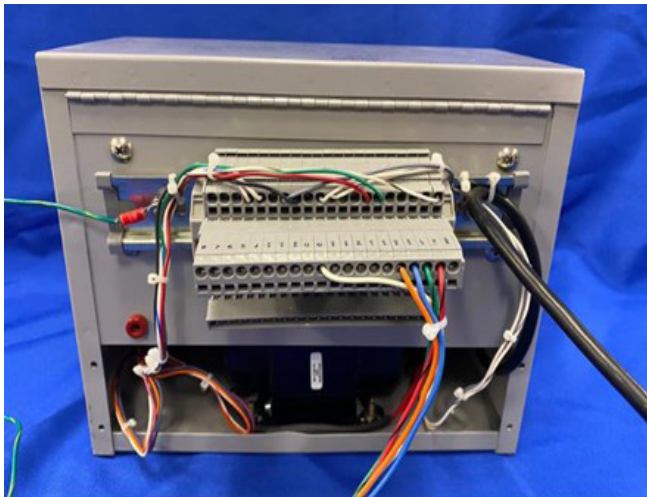

Figure 6. Connector wired to QD3 tap-changer
3. Insert the tap changer wiring harness connector into the open terminal Board receptacle. See Figure 6 and 7. When making this connection make sure that the labels on the connector match with the labels on the receptacle.